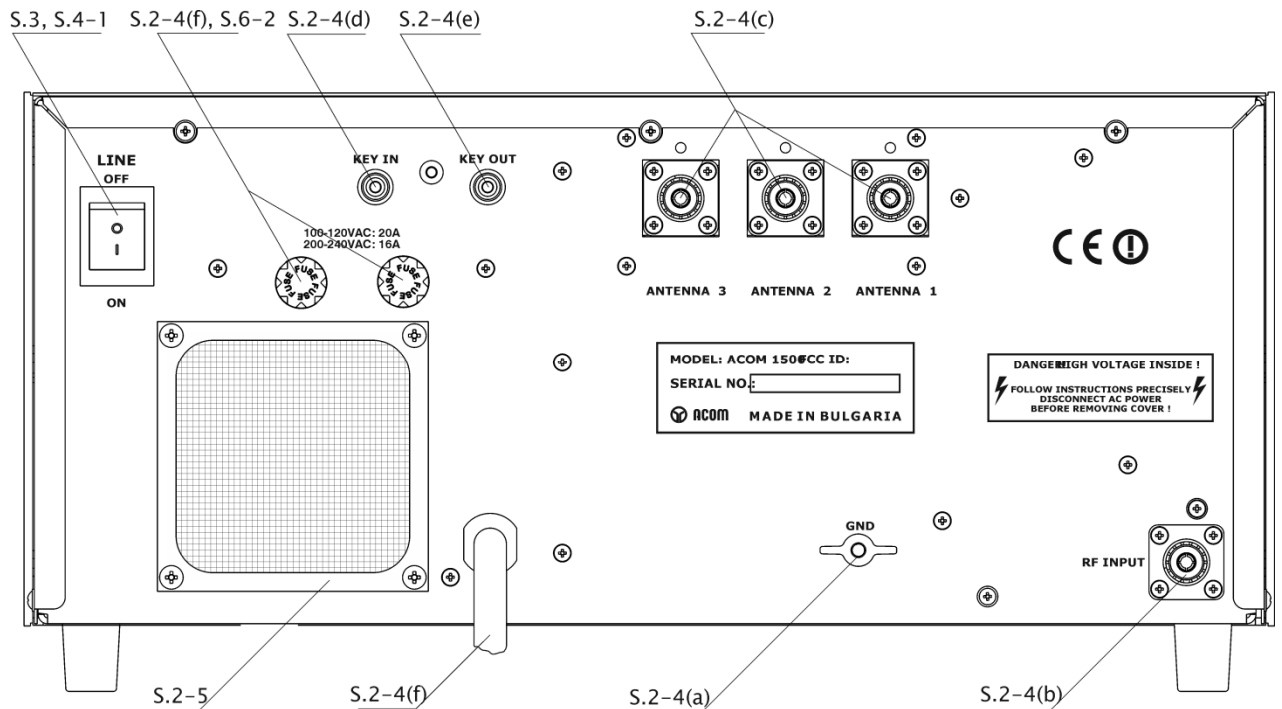
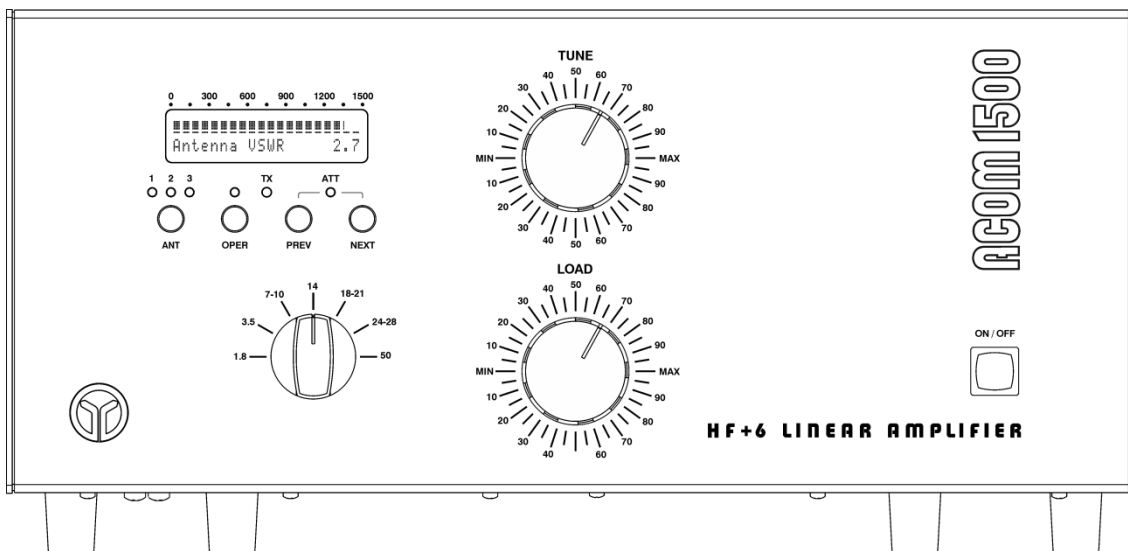

Fig. 2-1 Connections
Fig.3-1 ACOM1500 Display and Control
- First, connect the ground stud of the amplifier (on the rear panel, marked GND) to the station's grounding system (Fig.2-1).
This fan (Fig. 2-1) is not necessary in SSB and CW modes, or in continuous carrier modes (RTTY, SSTV etc.) with a maximum carrier-down time of 15 minutes and a subsequent pause of 3 minutes. For higher duty cycles such as continuous broadcast or increased ambient temperatures the fan is recommended. The auxiliary fan (92x92x25mm or 92x92x38mm) must be a brushless type, 2...5W/24VDC. It may be installed by your dealer or by the manufacturer on request.
After following all instructions in S.2, you may turn ON the main power switch marked "LINE" on the rear panel (Fig.2-1). The LED indicator above the red ON/OFF button located on the front panel must light red and an inscription "ACOM1500" will appear on the display (Fig.3-1):